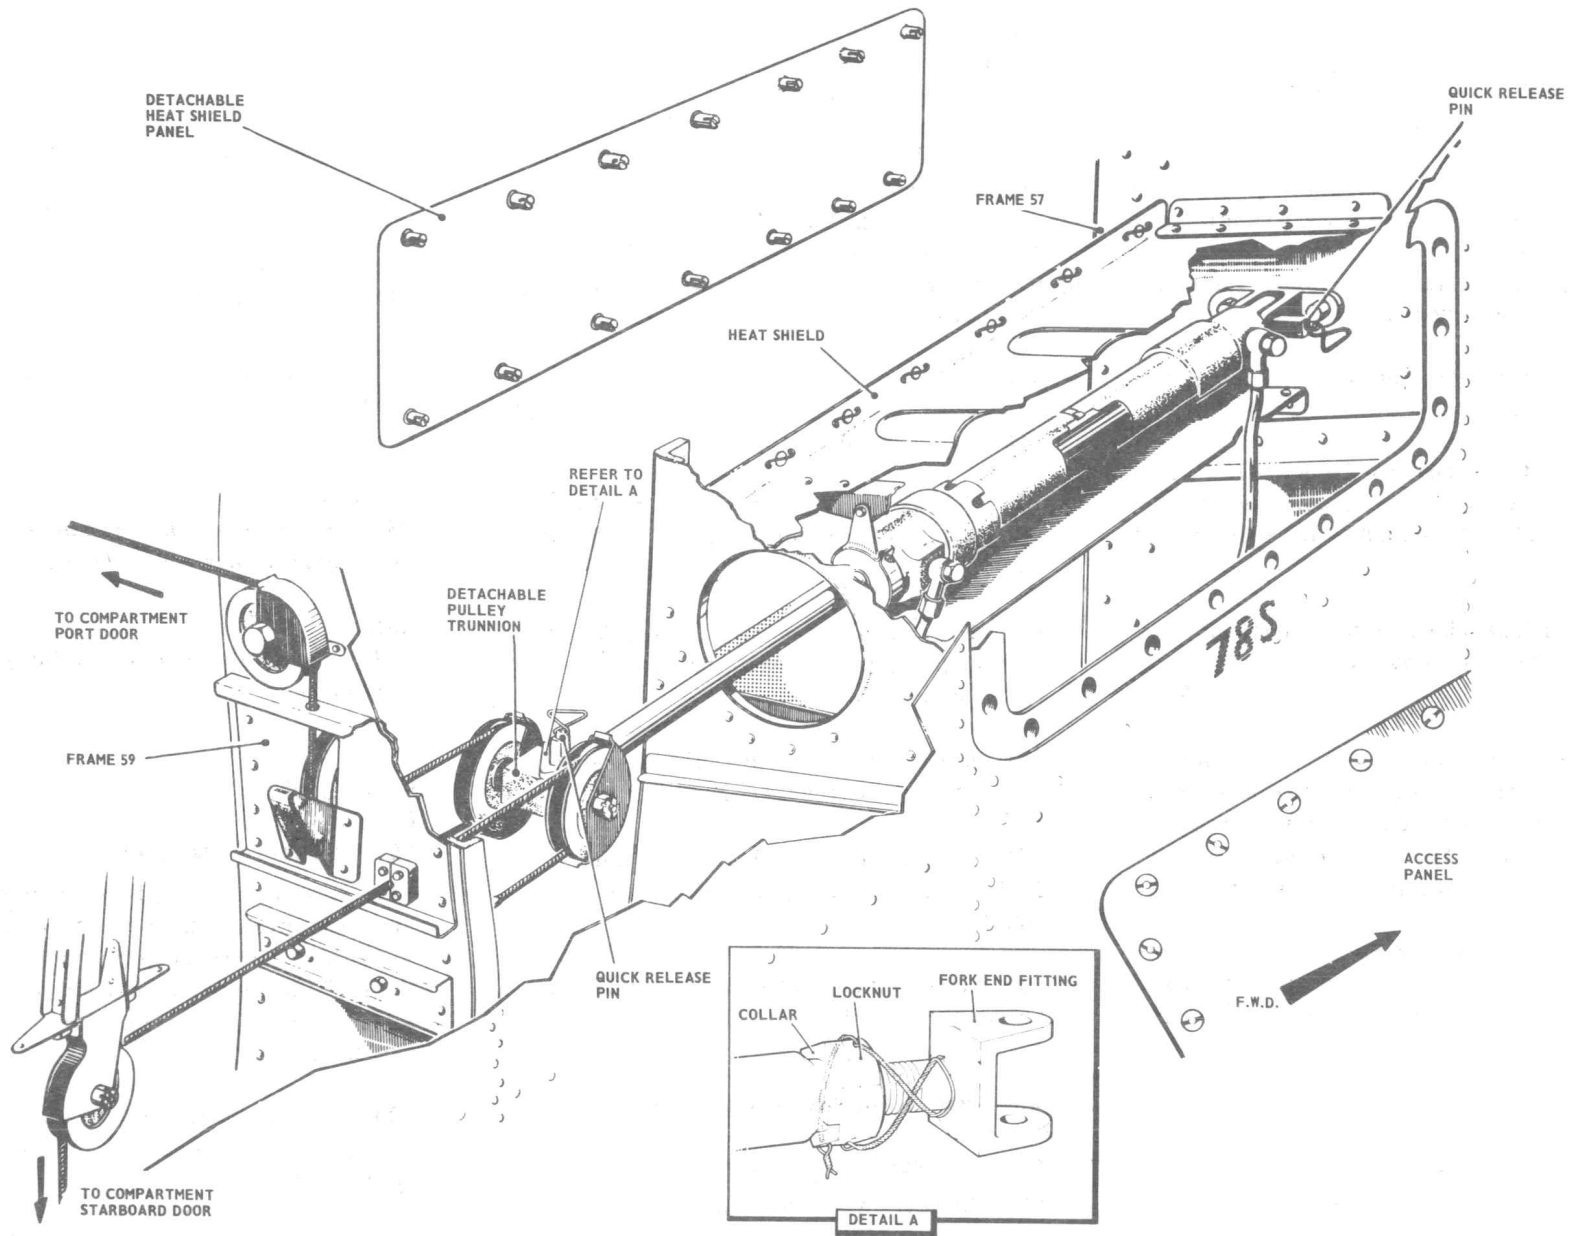

FIG.8. DOORS JACK - REMOVAL AND ASSEMBLY
*After the jack fork-end fitting has been adjusted to suit centres, the inspection hole in the fitting must not be visible when the locknut is tightened. Wire-lock the collar, locknut and fork-end fitting together, as shown in fig.8. The wire must prevent movement of the fork-end in either direction.*